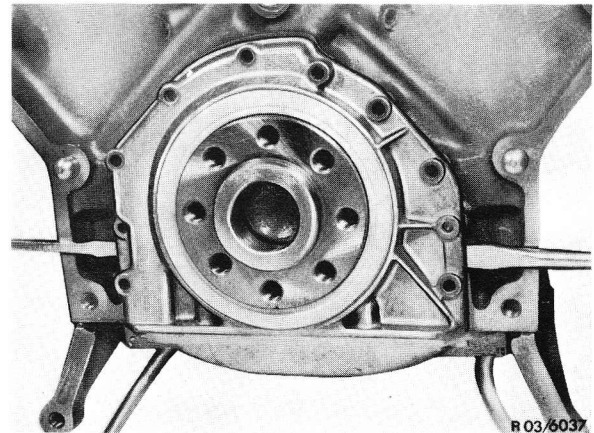
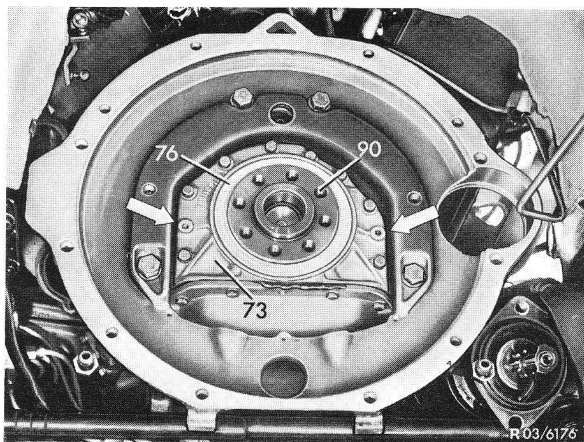

Fig. 2
Fig. 4
3 Loosen cover (73) and remove (Fig. 4), by positioning two screw drivers against the recesses provided for this purpose (Fig. 2 and 3).
Note: The cover is centered with two set pins (refer to arrow in Fig. 4).
4 Remove sealing ring (76) from cover (Fig. 4).